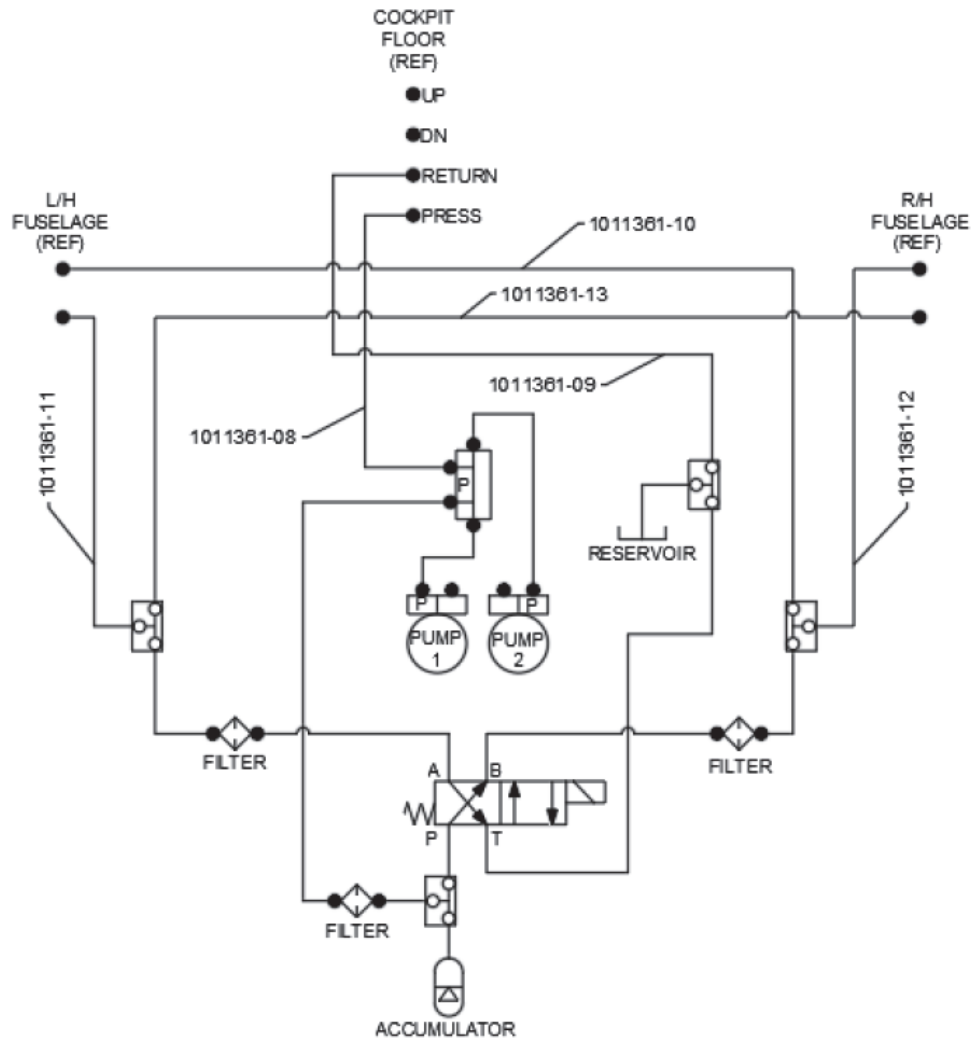

**FIGURE 12**
I. Install hydraulic line 1011361-08 from the hydraulic manifold fitting located under the top plate of the hydraulic powerpack assembly to the aft cockpit floor bulkhead fitting. Install hydraulic line 1011361-09 from the top fitting on the hydraulic reservoir to the second to last fitting of the cockpit floor bulkhead fittings. See Figure 12.